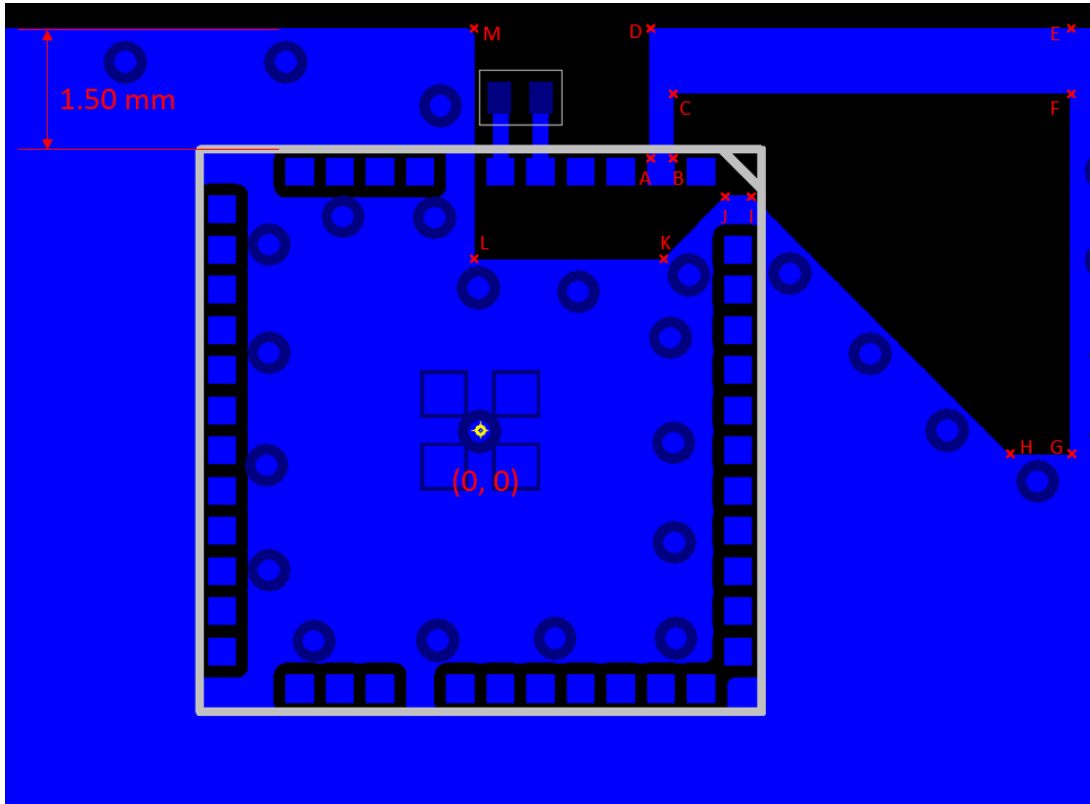

Figure 7.2. TOP Layer Antenna Layout With Coordinates
- Copy the exact design from Figure 7.2 on page 40 with the values for coordinates A to L given in Table 7.1 Antenna Polygon Coordinates, Referenced to Center of MGM240S on page 40.